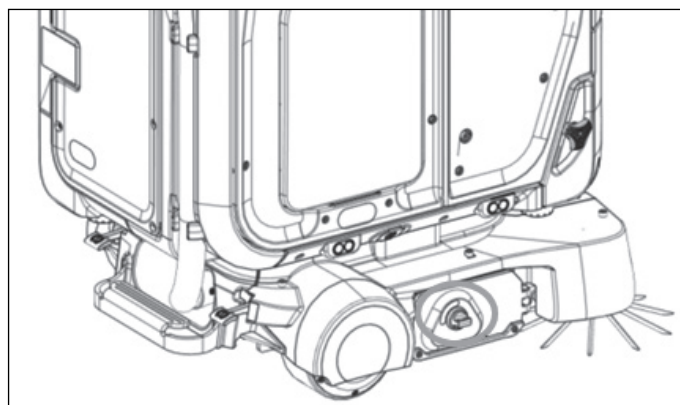

Figure 70
1. Located on the right of the robot, twist the knob anti-clockwise to open the brush door (Fig. 70).